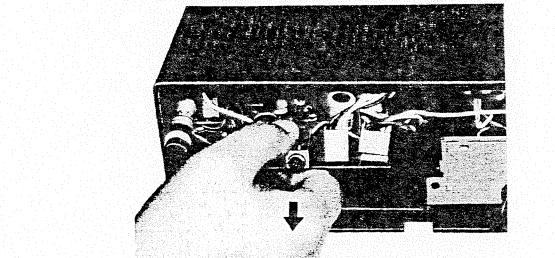

Fig. 4
2. Pull out the circuit board in the direction of arrow, as illustrated in fig. 4.
2. Pull off fig. 4.